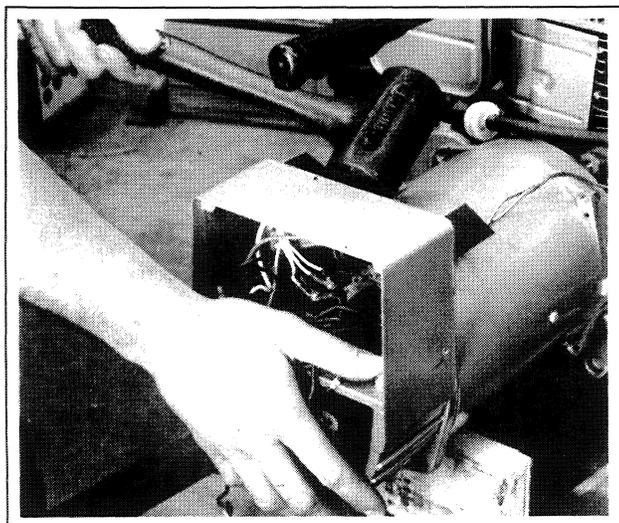

Figure 2-16. Removing End Bracket
11. Bump end bracket with a soft hammer, bumping alternately on either side until the end bracket can be removed, Figure 2-16.